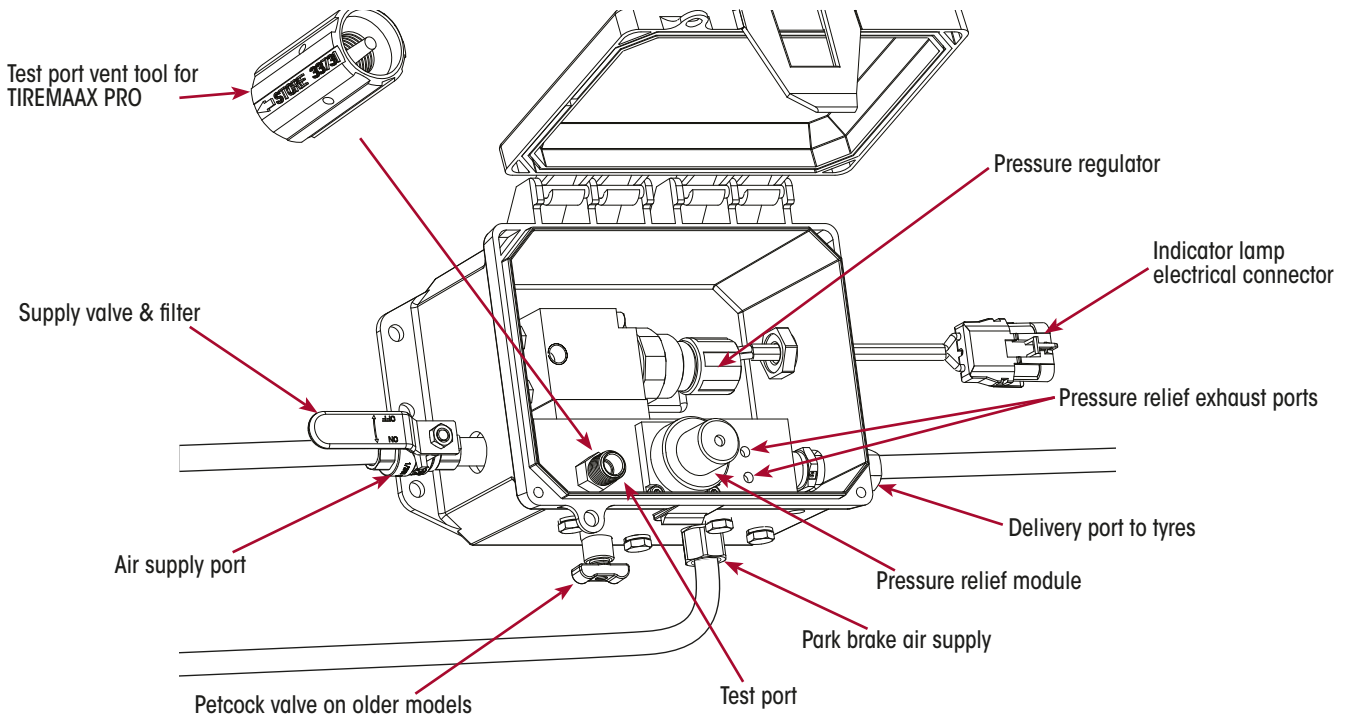
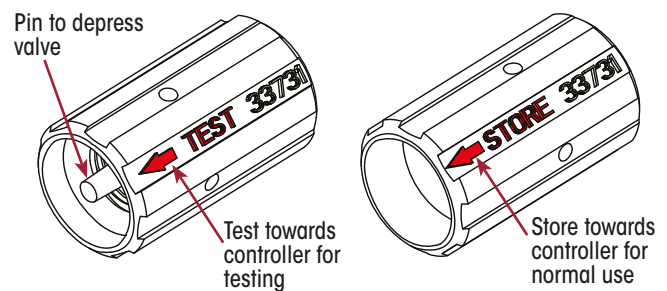

Figure 197: TIREMAAX PRO Controller Components
Figure 202: Later TIREMAAX PRO Test Port Vent Tool
- 2b. Later TIREMAAX PRO systems have a test port that covered by a test port vent tool. To enable the test port, remove the tool from the test port and turn it around so that the pin on the tool presses on the test port valve. If in doubt, refer to the inherent marking on the side of the test port tool. Refer Figure 197 and Figure 202.